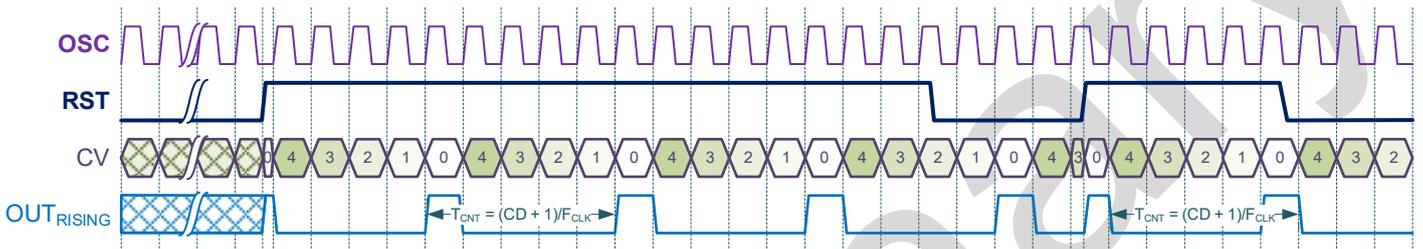

Figure 9.7. Counter Mode Timing Diagram (TMR0, TMR1, Rising Reset, Forced OSC, Auto OSC)
In the Counter mode the TMR divides input clock signal by the value determined by the Control Data, input clock signal and selected divider value. The output of the TMR goes HIGH every time when the Counted Value (current value of the counter) is equal 0. The RST in of the TMR reset Counted value to 0 by one of the following events: rising edge, falling edge, both edges, high level. The timing diagrams of this mode is shown in the Figure 9.7...Figure 9.12.
- Counter (Figure 9.7...Figure 9.12)